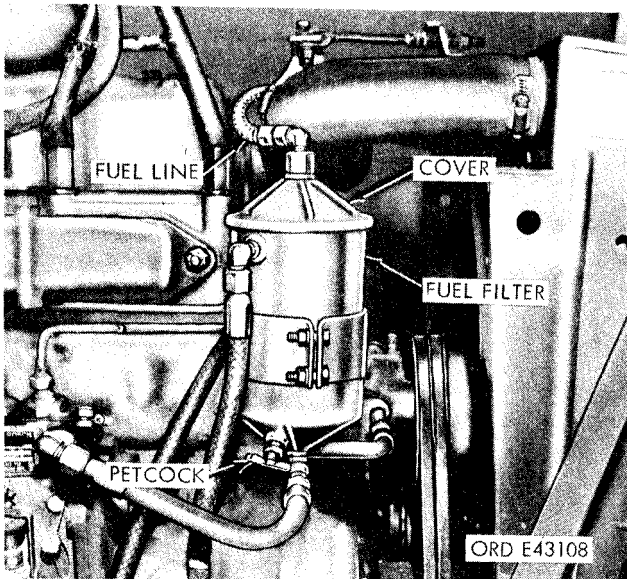

Figure 2-97. Secondary fuel filter—diesel models.
**(1) Removal.**
- (a) Open the pet cock and drain the fuel into a suitable container (fig. 2-97).
- (b) Disconnect the fuel line at the cover elbow (fig. 2-97).
(b) Position a new gasket and the cover on the housing (fig. 2-97).
(c) Connect the fuel line to the elbow on the cover (fig. 2-97), and close the drain cock.